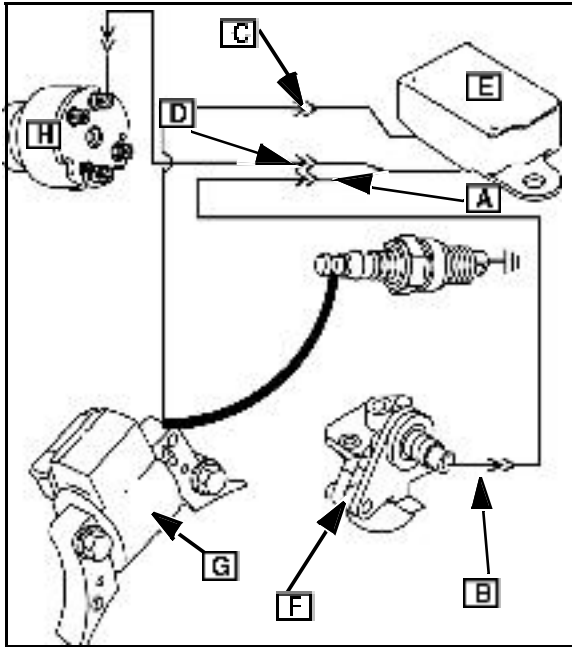

Fig. 51
Disconnect the BLUE or BLACK wire at ([A] Fig. 51) and start engine.
- Replace the module ([E] Fig. 51) and retest.
- Check continuity in the wire between ([A and B] Fig. 51).
- Disconnect wires at ([C and D] Fig. 51) and attempt an engine start.
- Check the ignition armature (G) for grounds.
- Reconnect the wire at (C).
- Reconnect the wire at (D).
- Check the ignition switch ([H] Fig. 51).